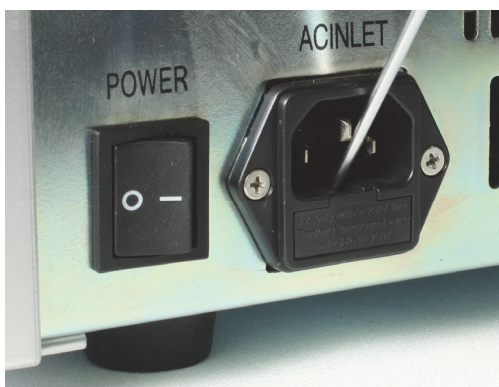

Figure 6–10. Opening the fuse block assembly
2. Use the small flat screwdriver to pry the fuse block assembly away from the power entry port housing and remove (Figure 6–10).